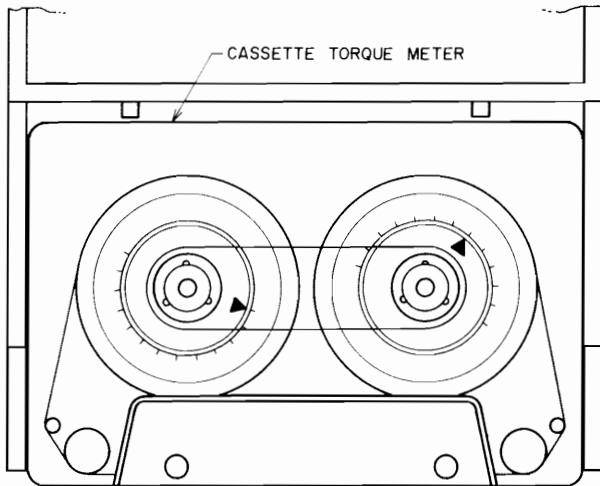

Fig. 3
1. TAKE-UP TORQUE AT VARIOUS MODES AND TORQUE MEASURING METHOD (Refer to Fig. 3)
As shown in Fig. 3, set a cassette torque meter on cassette base, and take a reading of the indication at each respective mode.